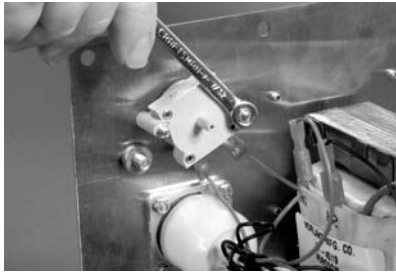

Figure 4-11 Pressure Switch Removal
3. See Figure 4-11. Using a wrench remove the two nuts and energizer washers from the pressure switch.